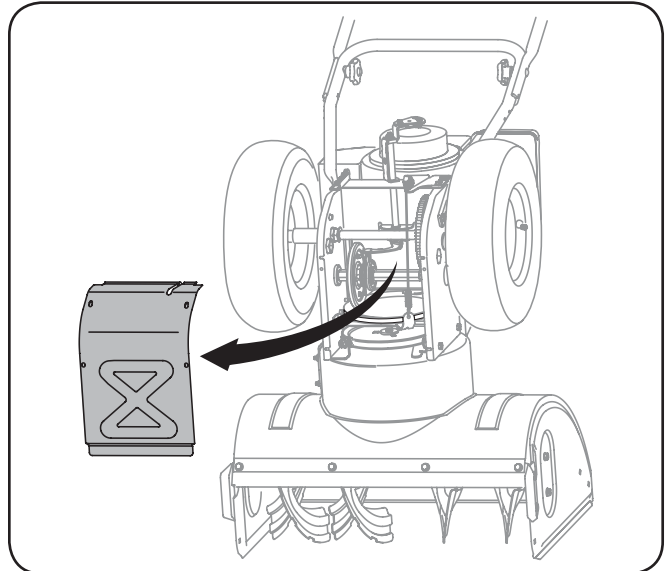

**Fig. 7-3**
3. Remove the frame cover from the underside of the snow thrower by removing the self-tapping screws which secure it. Refer to Fig 7-3.
5. Remove the frame cover from the underside of the snow thrower by removing the self-tapping screws which secure it. See Fig. 7-3.
5. Remove the frame cover from the underside of the snow thrower by removing the self-tapping screws which secure it. Refer to Fig. 7-3.